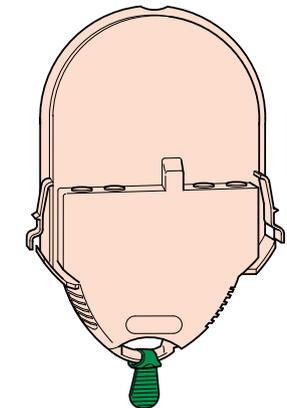

Figure 2. Pediatric-Pak
2. The optional Pediatric-Pak (pink color shown in Figure 2) for use on smaller children (from 1 to 8 years old and weighing under 55 lbs/25 kg).